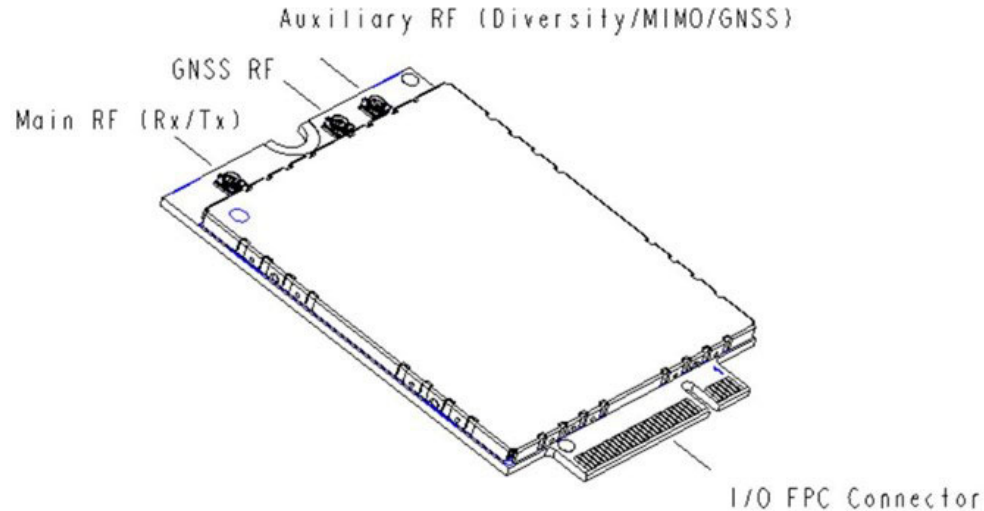

Figure 4-1: Module Connectors
- Connect to system ground using the mounting hole shown in Figure 4-1 on page 36.